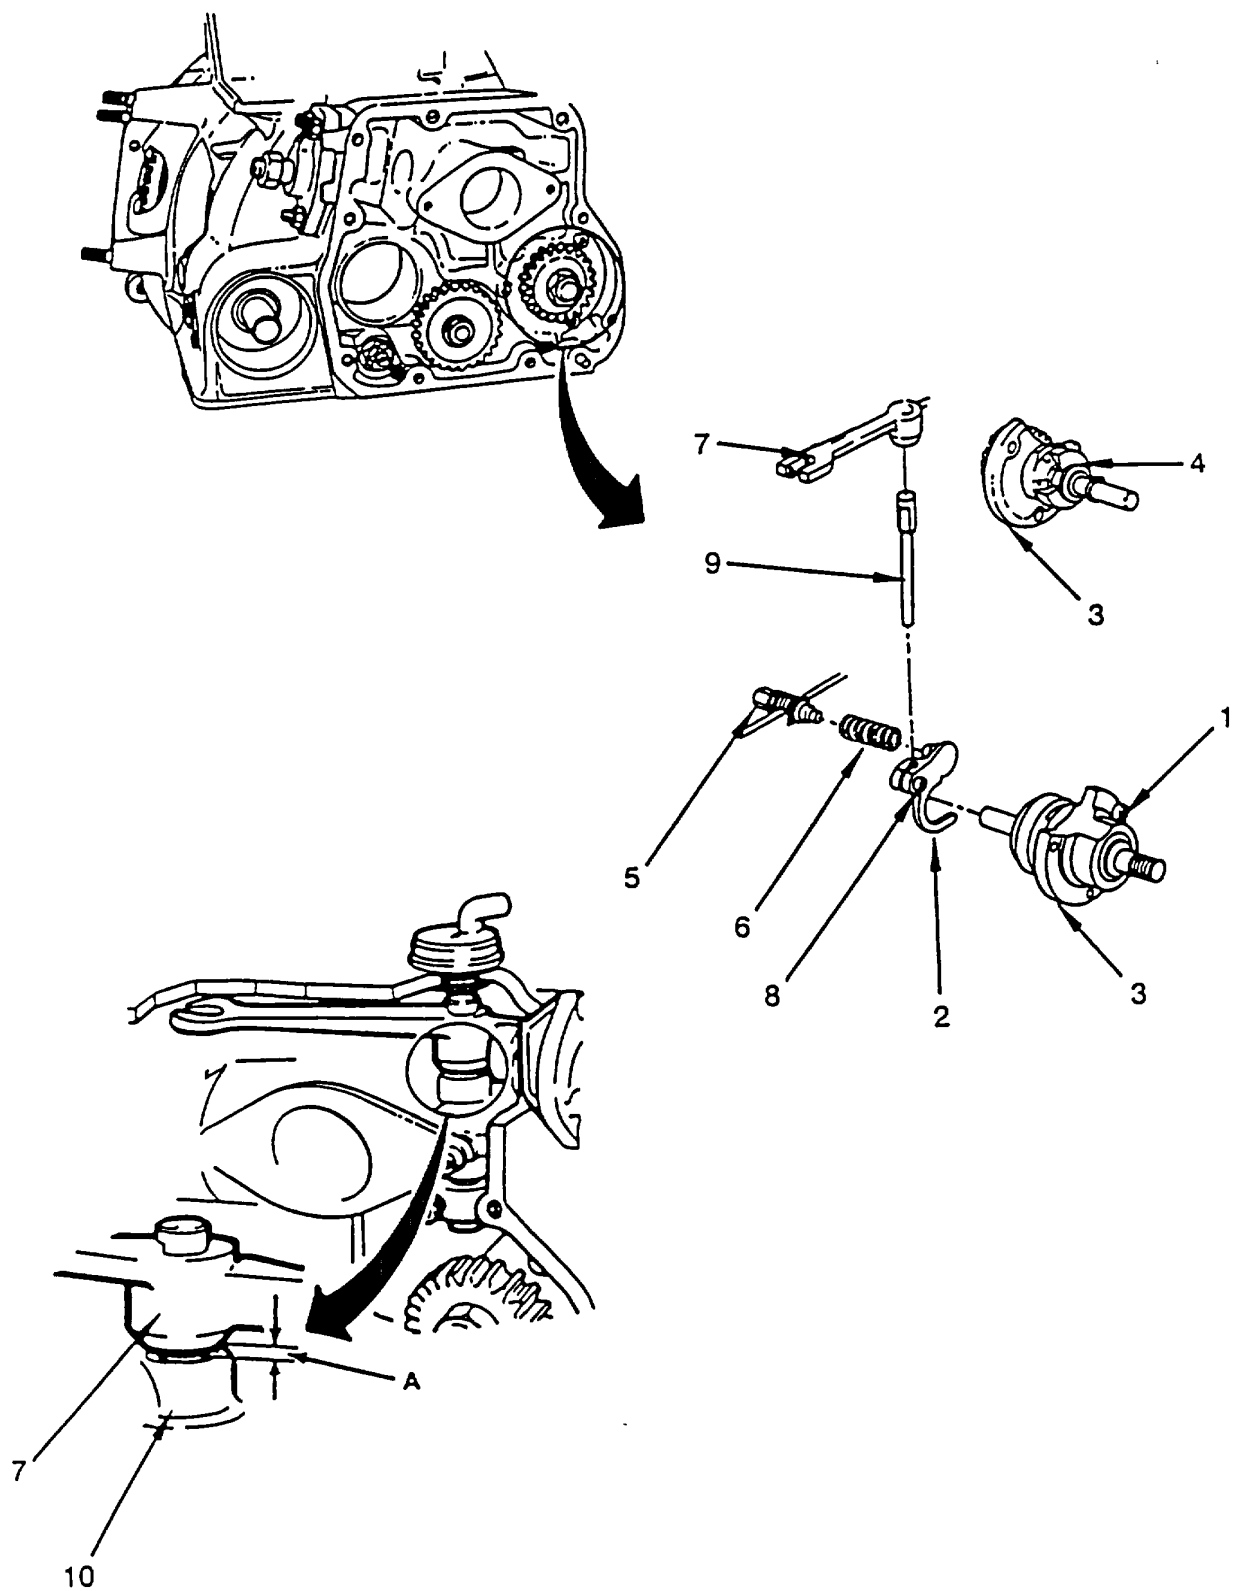

Figure 6-7. Governor Linkage Adjustment
a. Adjust. (Refer to Figure 6-7).